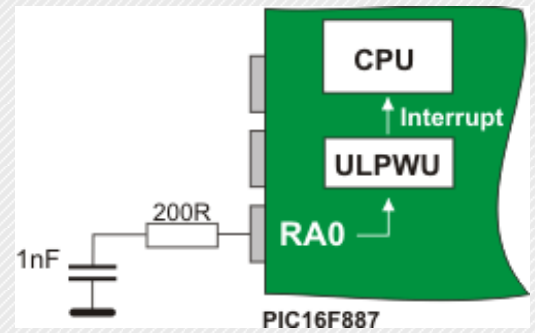

Fig. 3-4 Sleep Mode
Theoretically, this is a perfect solution. The problem is that all pins able to cause an interrupt in this way are digital and have relatively large leakage current when their voltage is not close to the limit values V_{dd} (1) or V_{ss} (0). In this case, the capacitor is discharged for a short time since the current amounts to several hundreds of microamperes. This is why the ULPWU circuit able to register slow voltage drops with ultra low power consumption was designed. Its output generates an interrupt, while its input is connected to one of the microcontroller pins. It is the RA0 pin. Referring to Fig. 3-4 ($R=200\text{ ohms}$, $C=1\text{nF}$), discharge time is approximately 30mS, while the total consumption of the microcontroller is 1000 times lower (several hundreds of nanoamperes).